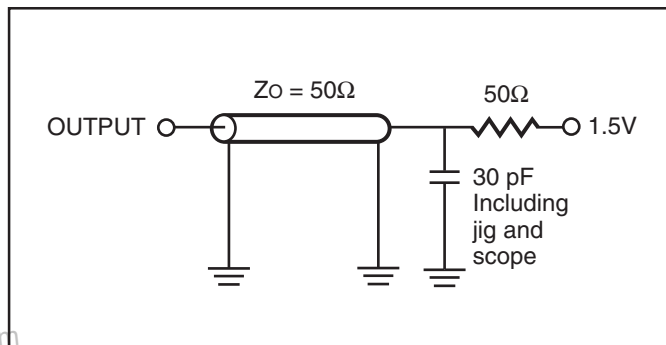

Figure 1.
- Test conditions assume signal transition times of 3 ns or less, timing reference levels of 1.5V, input pulse levels of 0V to 3.0V and output loading specified in Figure 1.
1. Test conditions assume signal transition times of 3 ns or less, timing reference levels of 1.5V, input pulse levels of 0V to 3.0V and output loading specified in Figure 1.